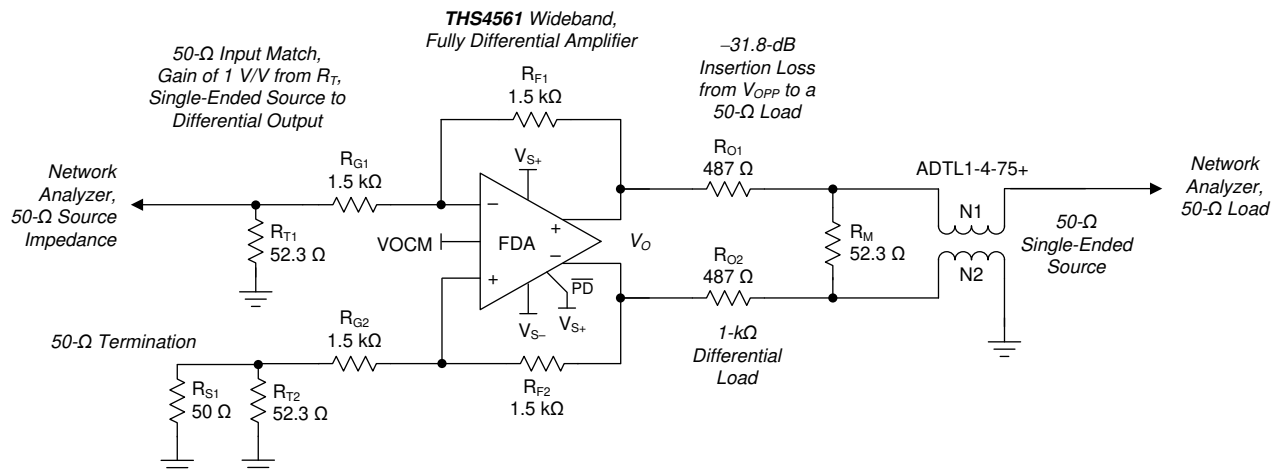

图 8-1. Single-Ended Source to a Differential Gain of a 1-V/V Test Circuit
at  $T_A \approx 25^\circ\text{C}$ , VOCM pin = open,  $R_F = 1.5\text{ k}\Omega$ ,  $R_L = 1\text{ k}\Omega$ ,  $V_O = 2\text{ V}_{PP}$ , 50- $\Omega$  input match,  $G = 1\text{ V/V}$ ,  $\overline{PD} = V_{S+}$ , single-ended input (SE-in), differential output (diff-out), and input and output referenced to default midsupply for AC-coupled tests (unless otherwise noted); see Figure 8-1 for a gain of 1-V/V test circuit.
at  $T_A \approx 25^\circ\text{C}$ , VOCM pin = open,  $R_F = 1.5\text{ k}\Omega$ ,  $R_L = 1\text{ k}\Omega$ ,  $V_O = 2\text{ V}_{PP}$ , 50- $\Omega$  input match,  $G = 1\text{ V/V}$ ,  $\overline{PD} = V_{S+}$ , single-ended input (SE-in), differential output (diff-out), and input and output referenced to default midsupply for AC-coupled tests (unless otherwise noted); see 图 8-1 for a gain of 1-V/V test circuit.
$V_O = 200\text{ mV}_{PP}$ , see 图 8-1 and 表 10-1 for resistor values
See 图 8-1
$V_O = 200\text{ mV}_{PP}$ , see 图 8-1 with  $R_L$  adjusted
at  $T_A \approx 25^\circ\text{C}$ , VOCM pin = open,  $R_F = 1.5\text{ k}\Omega$ ,  $R_L = 1\text{ k}\Omega$ ,  $V_O = 2\text{ V}_{PP}$ , 50- $\Omega$  input match,  $G = 1\text{ V/V}$ ,  $\overline{PD} = V_{S+}$ , single-ended input, differential output, and input and output referenced to default midsupply for AC-coupled tests (unless otherwise noted); see 图 8-1 for a gain of 1-V/V test circuit.
at  $T_A \approx 25^\circ\text{C}$ , VOCM pin = open,  $R_F = 1.5\text{ k}\Omega$ ,  $R_L = 1\text{ k}\Omega$ ,  $V_O = 2\text{ V}_{PP}$ ,  $50\text{-}\Omega$  input match,  $G = 1\text{ V/V}$ ,  $\overline{PD} = V_{S+}$ , single-ended input, differential output, and input and output referenced to default midsupply for AC-coupled tests (unless otherwise noted); see 图 8-1 for a gain of 1-V/V test circuit.
at  $T_A \approx 25^\circ\text{C}$ , VOCM pin = open,  $R_F = 1.5\text{ k}\Omega$ ,  $R_L = 1\text{ k}\Omega$ ,  $V_O = 2\text{ V}_{PP}$ ,  $50\text{-}\Omega$  input match,  $G = 1\text{ V/V}$ ,  $\overline{\text{PD}} = V_{S+}$ , single-ended input, differential output, and input and output referenced to default midsupply for AC-coupled tests (unless otherwise noted); see 图 8-1 for a gain of 1-V/V test circuit.
The characterization circuits are typically operated with a single-ended, matched, 50-Ω, input termination to a differential output at the FDA output pins because most lab equipment is single-ended. The FDA differential output is then translated back to single-ended through a variety of baluns (or transformers) depending on the test and frequency range. DC-coupled step response testing uses two 50-Ω scope inputs with trace math to measure the differential output. Single-supply operation is most common in end equipment designs. However, using split balanced supplies allows simple ground referenced testing without adding further blocking capacitors in the signal path beyond those capacitors already within the test equipment. The starting point for any single-ended input to differential output measurements (such as any of the frequency response curves) is shown in 图 8-1.
Most characterization plots fix the  $R_F$  ( $R_{F1} = R_{F2}$ ) value at 1.5 kΩ, as shown in 图 8-1. This element value is flexible in application, but 1.5 kΩ provides a good compromise for the parasitic issues linked to this value, specifically:
- Added output loading: The FDA functions similarly to an inverting op amp design with feedback resistors appearing as an added load across the outputs (the approximate total differential load in 图 8-1 is  $1.5 \text{ k}\Omega \parallel 1 \text{ k}\Omega = 857 \text{ }\Omega$ ). The 1.5-kΩ value reduces the power dissipated in the feedback networks.
The frequency domain characterization curves start with the circuit and component selections of 图 8-1. Some of the features in this test circuit include:
- Translating from a  $1\text{-k}\Omega$  differential load to a  $50\text{-}\Omega$  environment introduces considerable insertion loss in the measurements (  $-31.8\text{ dB}$  in 图 8-1). The measurement path insertion loss normalizes when reporting the frequency response curves to show the gain response to the FDA output pins.
Starting from the test circuit of 图 8-1, various elements are modified to show the effect of these elements over a range of design targets, specifically:
- Resistive and capacitive output load testing. Changing to lower resistive loads is accomplished by adding parallel resistors across the output pins in 图 8-1. Changing to capacitive loads adds series output resistors to a differential capacitance before the 1-k $\Omega$  sense path of 图 8-1.